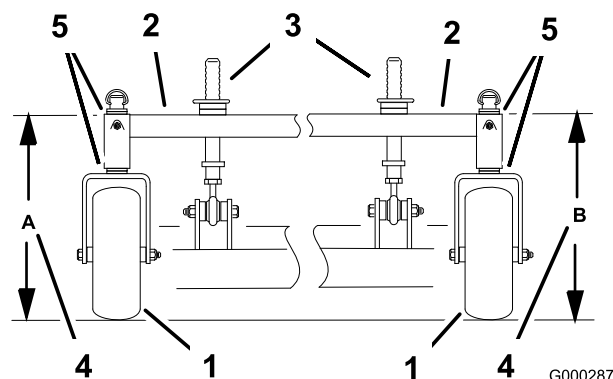

Figure 62
- Measure carrier frame height at location **A** (Figure 62).
- Measure carrier frame height at location **B** (Figure 62).